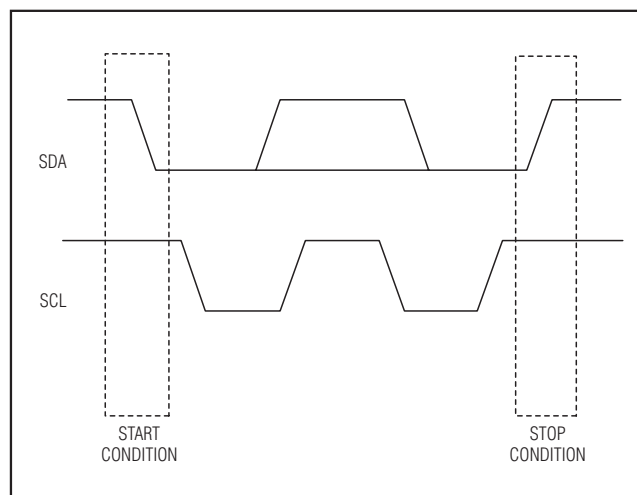

Figure 10. I2C START and STOP Conditions
When the serial interface is inactive, SDA and SCL idle high. A master device initiates communication by issuing a START (S) condition. A START condition is a high-to-low transition on SDA with SCL high. A STOP (P) condition is a low-to-high transition on SDA, while SCL is high (Figure 10).